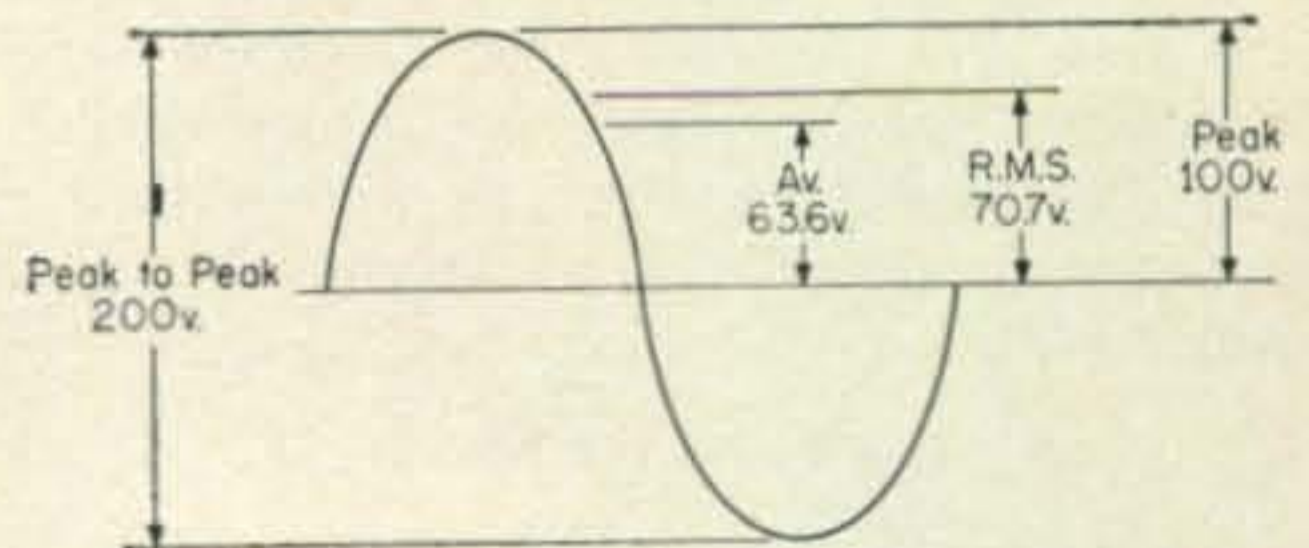

Fig. 1—Relationships between peak, peak-to-peak, r.m.s. and average voltages of a sinewave having a peak-to-peak value of 200 volts.
A.c. potentials generally are measured in terms of r.m.s. voltage. Peak, average or peak-to-peak a.c. voltage readings may be required in applications involving pulses, waveshaping, etc., but since these are seldom encountered in amateur gear, they will not be discussed here; except to show the various relationships at fig. 1.